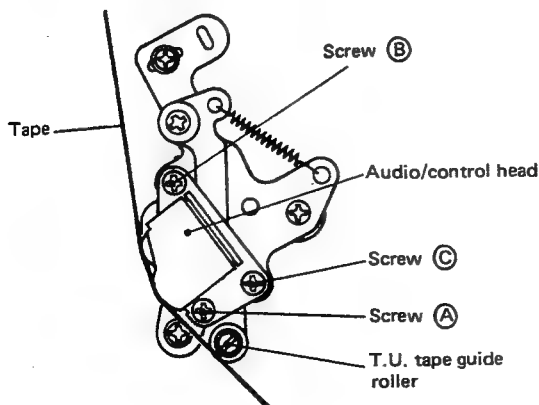

Fig. 2-54 A/C head height adjustment
3. Adjust screw (B) (shown in Fig. 2-54 for both maximum output levels and absence of phase difference between CH-1 and CH-2).